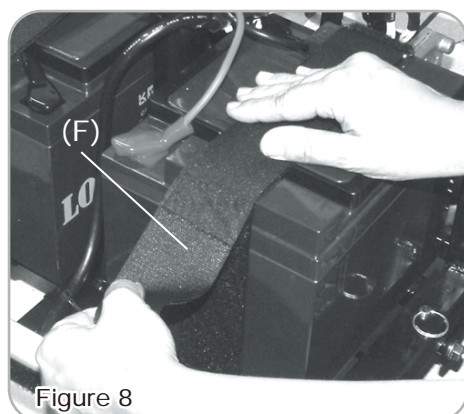

Figure 8
Remove Battery Fixing Velcro (F). (See Fig. 8)